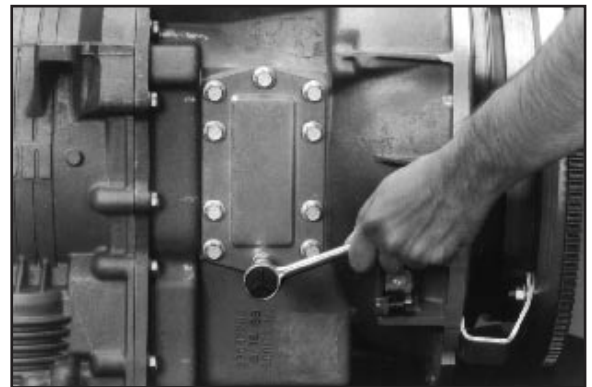

Fig. 2
2. Remove the P.T.O. aperture plate with a 15mm socket (**Fig. 2**).